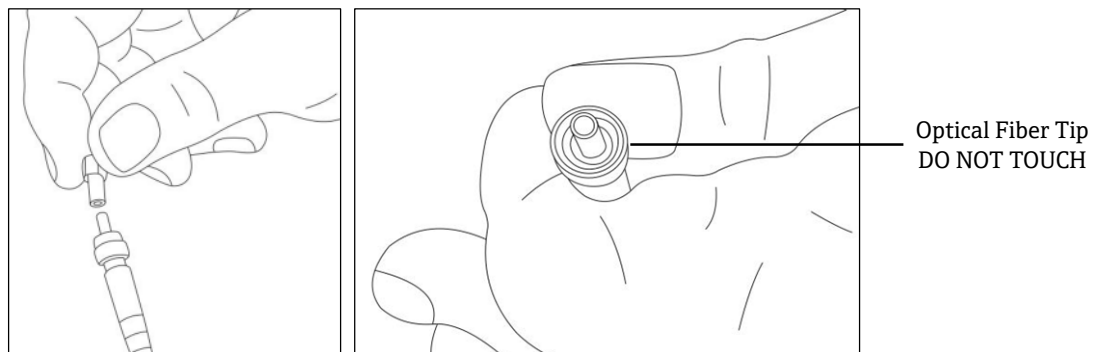

Figure 91. Preparing the new oxygen probe
- Carefully remove the protective plunger from the end of the probe (analyzer side), taking care not to touch the optical fiber tip. Refer to Figure 91.
- Insert the probe tip into the SMA connector and tighten the connector nut. Refer to Figure 91.